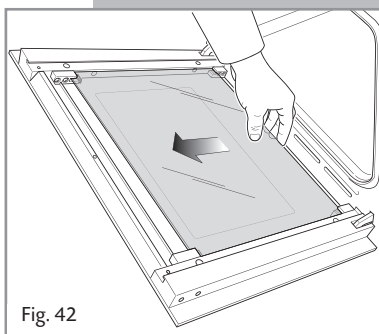

Fig. 42
- Gently unlock the middle pane of glass from the bottom clamps by moving it as in fig. 42.